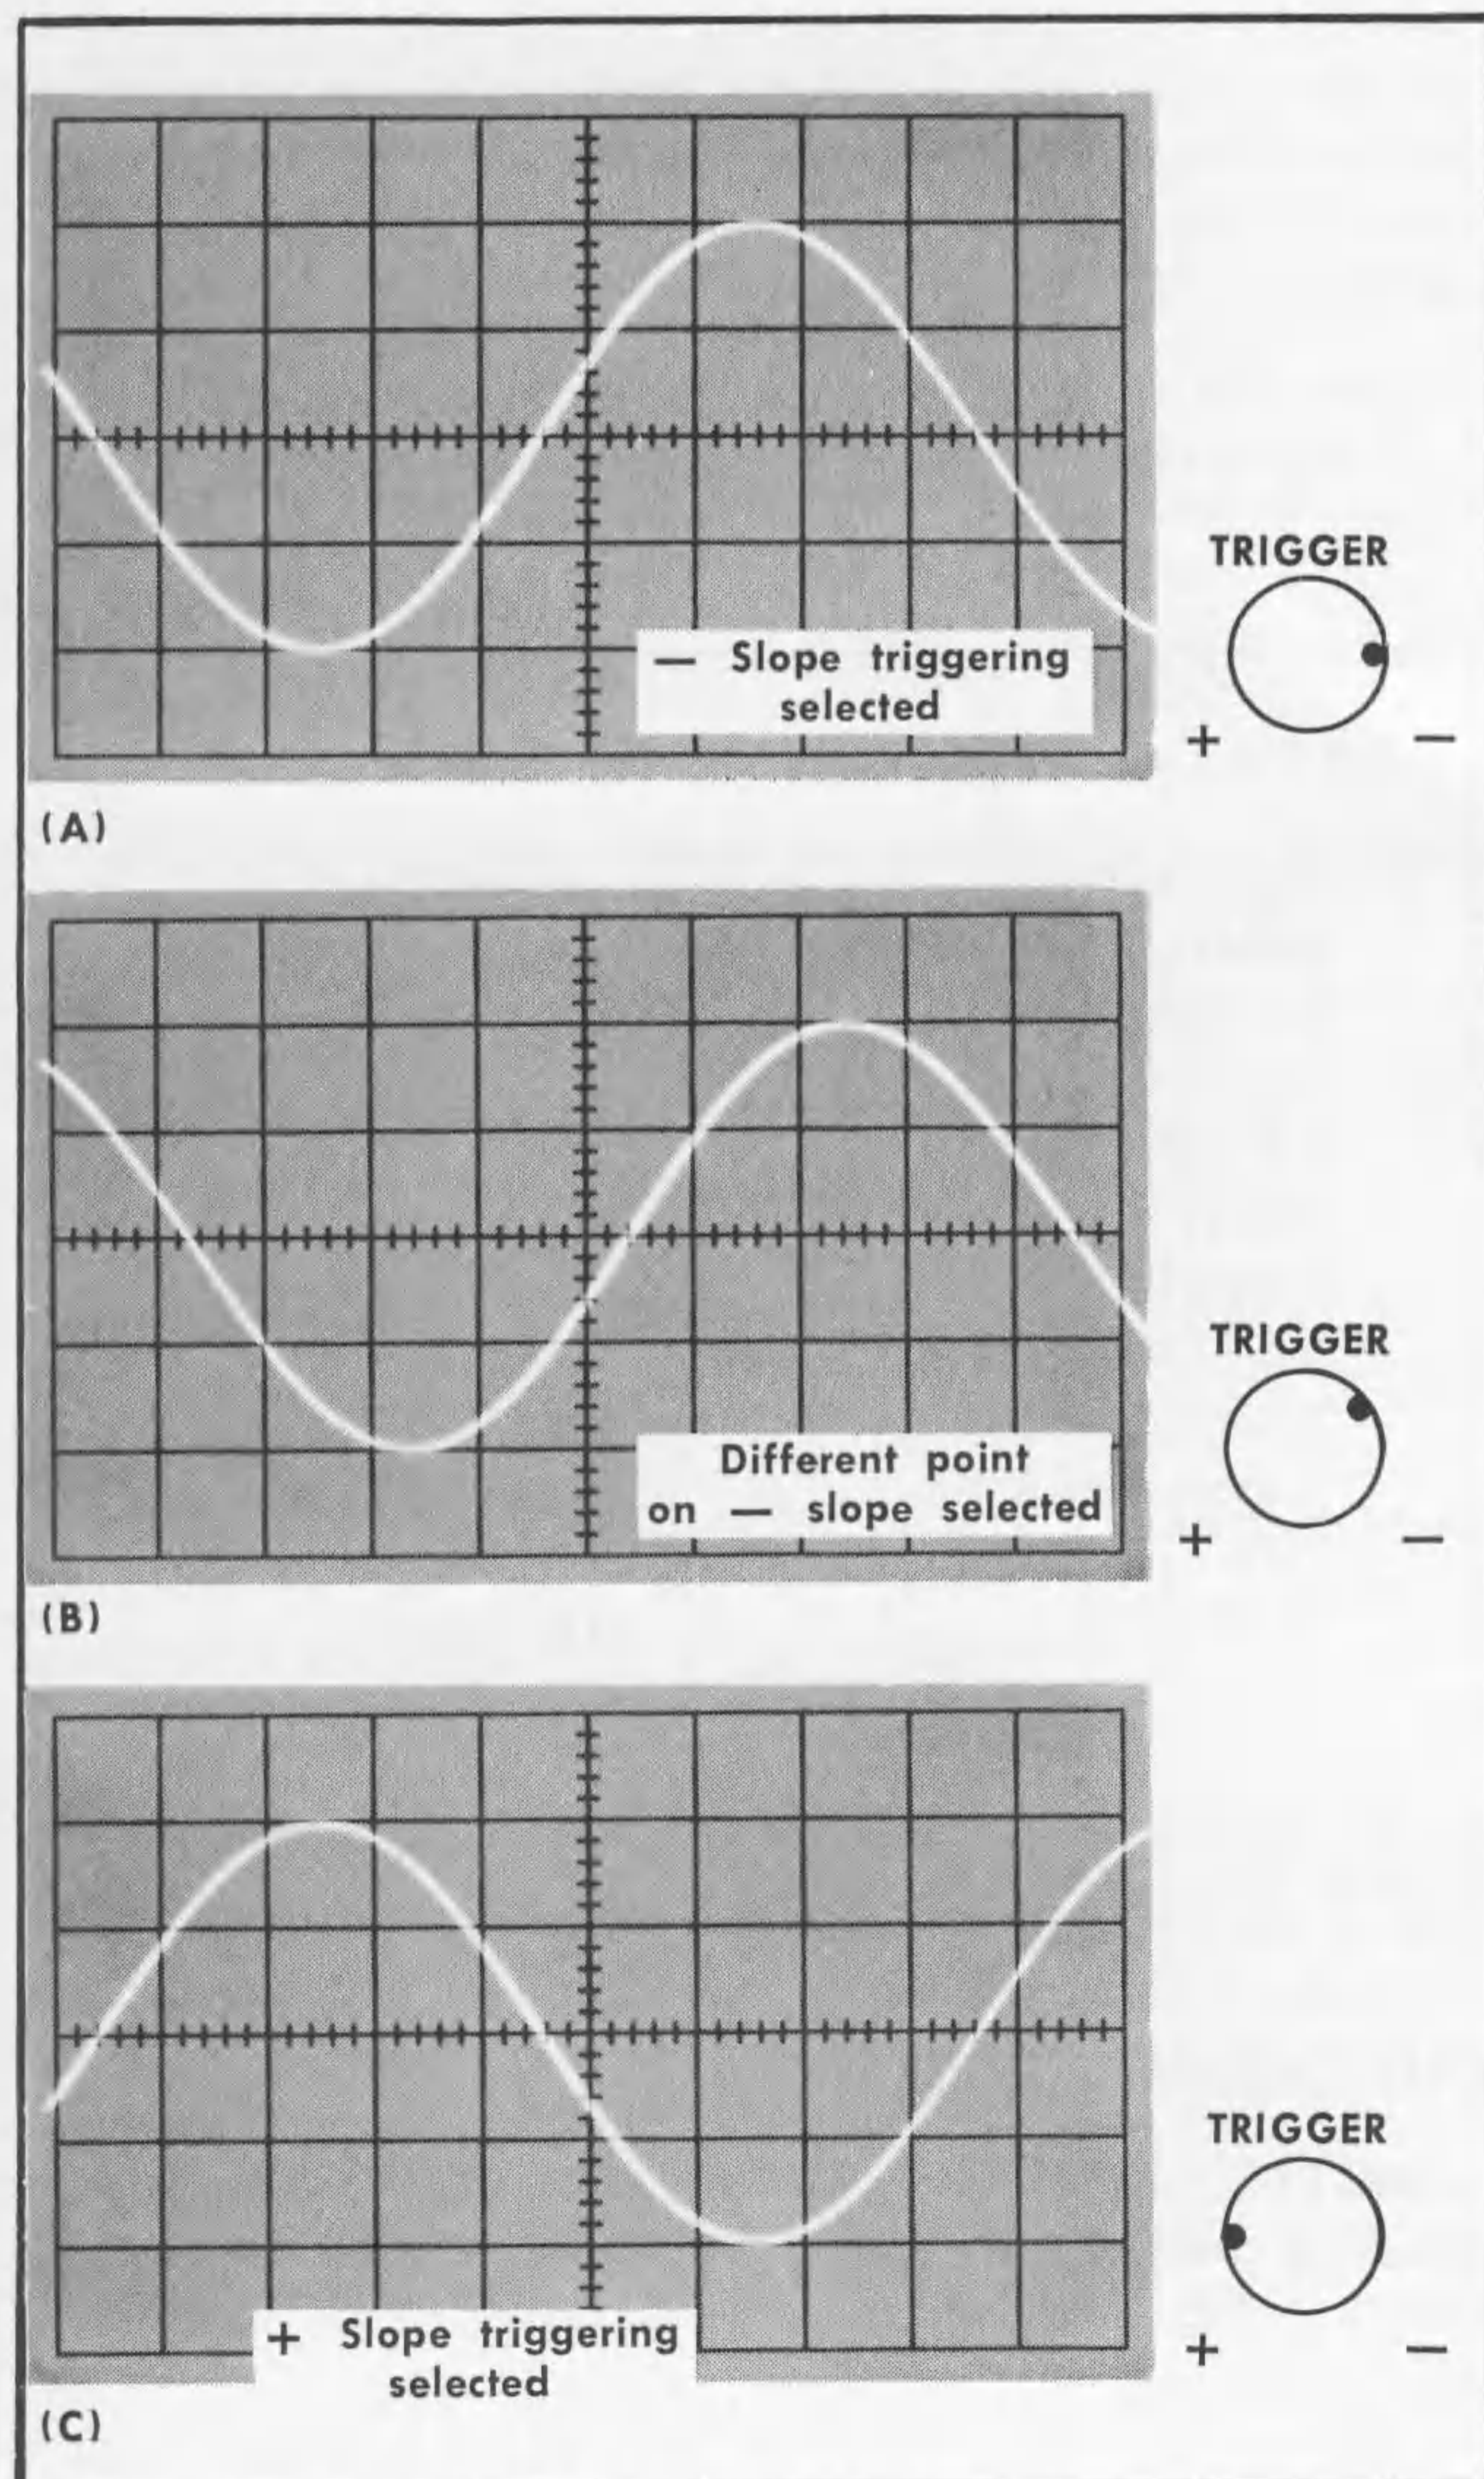

Fig. 2-7. Selection of triggering point.
22. Push in the X5 VERT GAIN control and set the VOLTS/DIV knob to .05. Connect the P6049 Probe to the VERT INPUT connector. Then connect the probe tip and ground lead across the output of a low-frequency sine wave generator. Set the generator for a 2-V peak-to-peak, 60 Hz output. Observe a sine wave which is 4 divisions peak-to-peak. Note that the beginning of the waveform has a negative (falling) slope. See Fig. 2-7(A).
change in signal level. Continue the counterclockwise movement of the TRIGGER control and note that triggering occurs at progressively more positive points of the waveform. See Fig. 2-7(B). Continue the rotation through the control center position. The trace will disappear or become unstable, then reappear, being triggered by the positive change in signal level. See Fig. 2-7(C). Leave it in this position. Either AUTO or manual trigger selection may be used in normal operation, as determined by the application and the operator's preference. It is suggested that AUTO be used in most applications, switching to manual when necessary to improve stability, increase the low-frequency triggering range, or to change the triggering point.